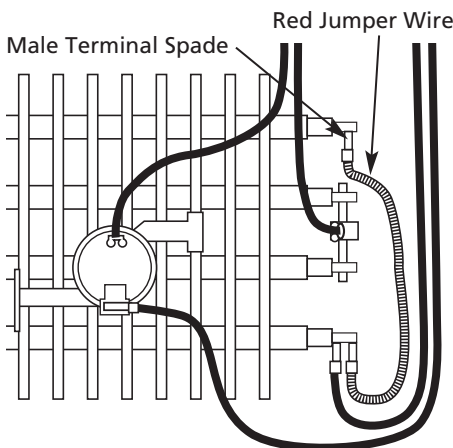

Figure 6 – Converting Heater to Half Wattage
1. Remove the red jumper wire as shown in Figure 6, page 4 and discard.